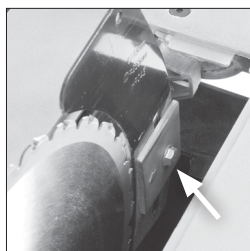

Fig. 15
- Loosen the Riving Knife fixing bolt by several turns and raise it to its highest point (**Fig. 15**).
- Slide the Riving Knife (it is slotted for convenience) between the fixing plate and mounting block (**Fig. 15**). Ensure that the mounting blocks projecting lugs engage with the slot in the Riving Knife.